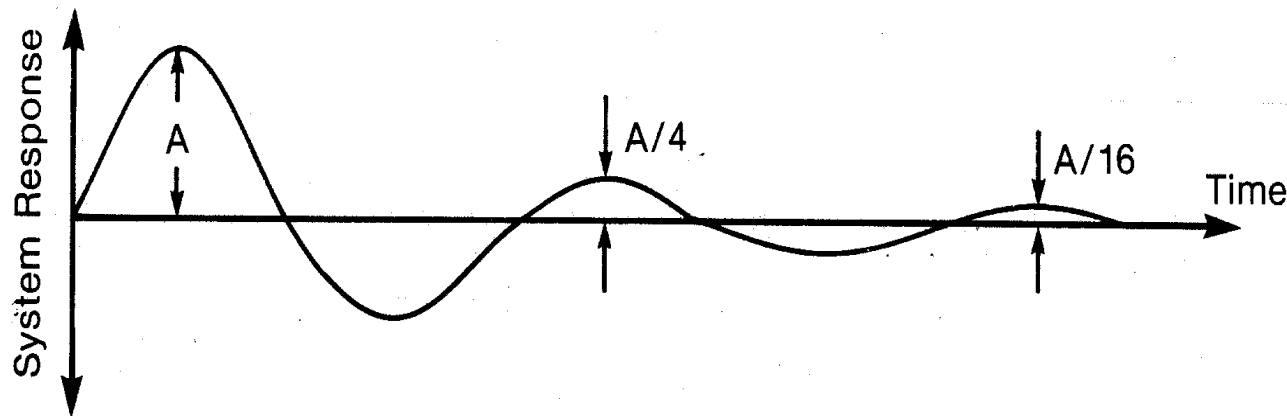

Figure 1: Typical 1/4 Decay Proportional Response – response plus stability.
- The generally accepted performance goal for well adjusted or *tuned* proportional control is one that produces a *quarter decay* characteristic (Figure 1) following an applied upset or disturbance. Each subsequent peak is 1/4 the magnitude of the previous peak.